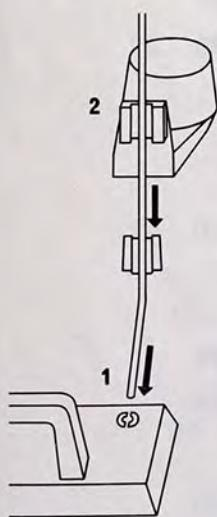

Fig. 3
3. Insert mast of yarn-guide into the hole at lock and fix cone-holder Fig. 3.